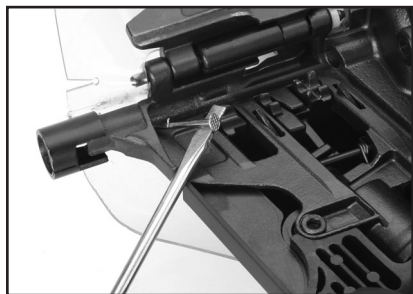

Figure 14. Prying a jammed nail from the driving hole.
4. Use a screwdriver to pry the jammed nail out of the driving hole as shown in **Figure 14**.